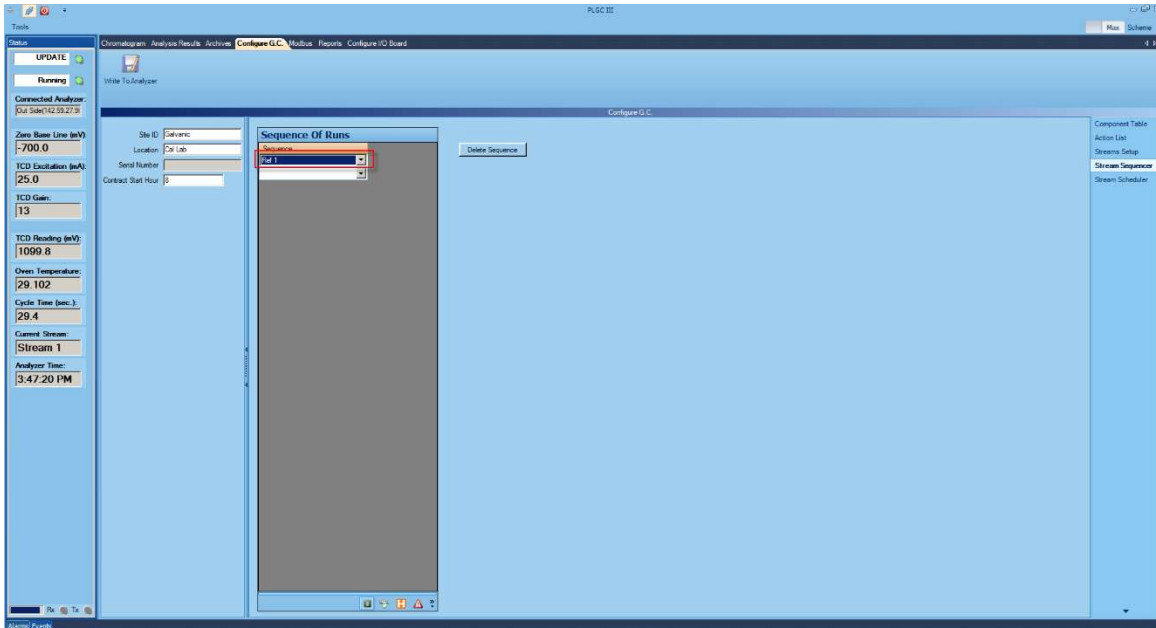

Figure 7-1: Stream Sequencer Selection of the Configure G.C. Tab
- a) Place the analyzer into Reference mode via the *Stream Sequencer* selection of the *Configure G.C.* tab (Figure 7-1).